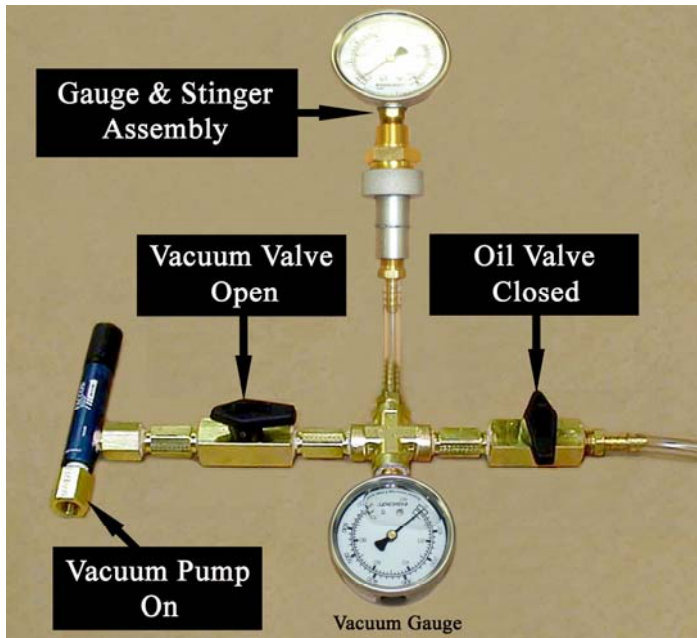

Figure 3
5. Attach the gauge to the stinger fitting as shown in figure 3.